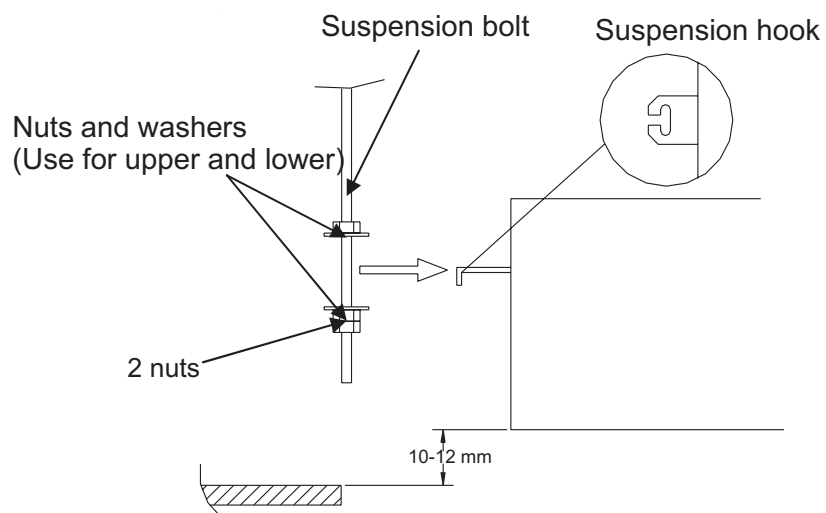

Fig.9
4. In order to prevent a possible looseness, it is recommended to use 3 hexagonal nuts (Prepared on site) and 2 washers (accessory) for each suspension bolt. Pay attention that 2 nuts will be used in the lower side.(Fig.9)
5. Adjust the distance between the unit and the ceiling bottom to 10~12mm. Tighten all the nuts on the suspending bolts.(Fig.9)